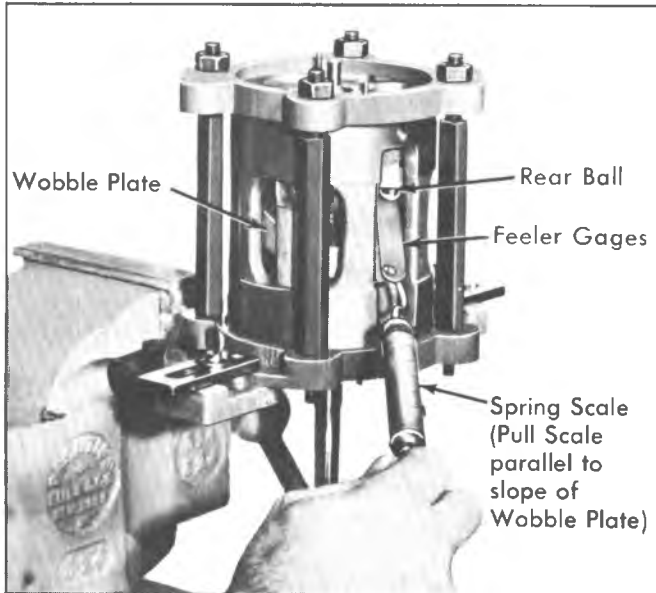

Fig. 23—Checking Clearance Between Rear Ball and Wobble Plate
12. Use a leaf type feeler gauge and a suitable spring scale to check clearance between the REAR ball and the wobble plate (fig. 23) of the No. 1 piston. Use a suitable combination of feeler gauge leaves until 4 to 8 oz. of force is required to pull gauge from between the ball and the plate.